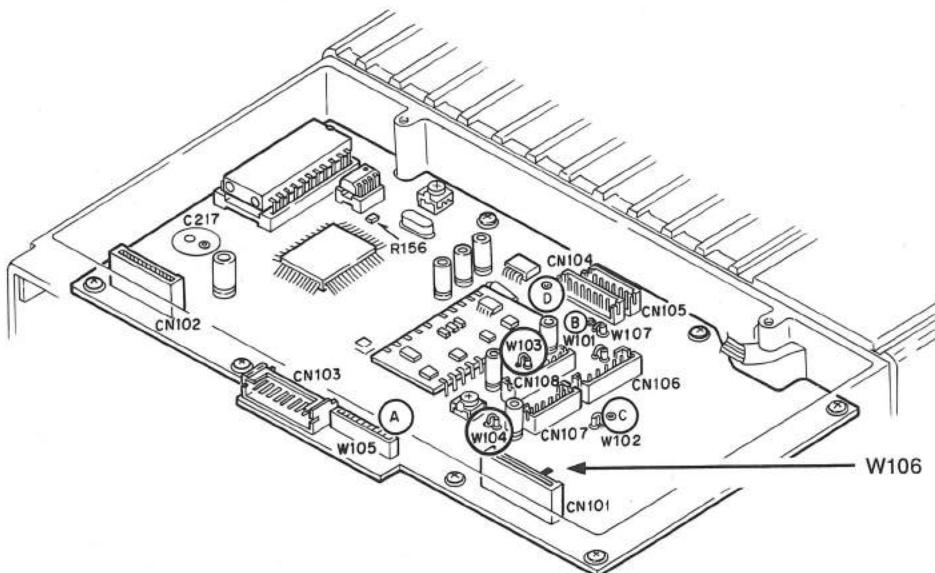

Fig. 1-5 Control unit (X57- A/4)
3. Install the KRK-2 on radio 1 using the four flat-headed screws (①). Take care not to get W105 between the frame edges.
4. Short W106 on the control unit by soldering (Fig. 1-5). If you do not short it, the KRK-2 audio output will be reduced.